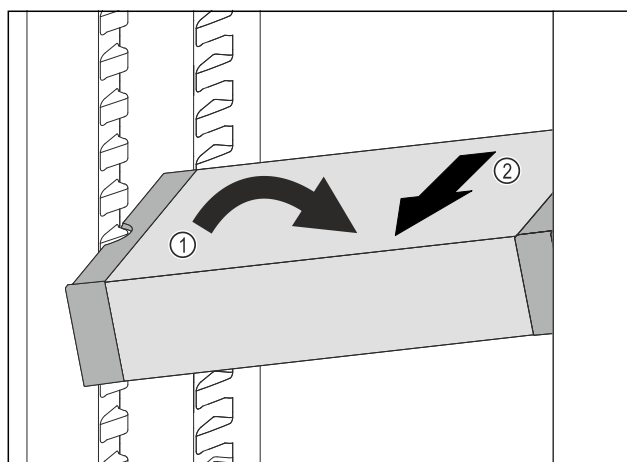

Fig. 186
- Set VarioSafe in refrigerator compartment at an angle. Fig. 186 (1)
- Take VarioSafe out to the front. Fig. 186 (2)